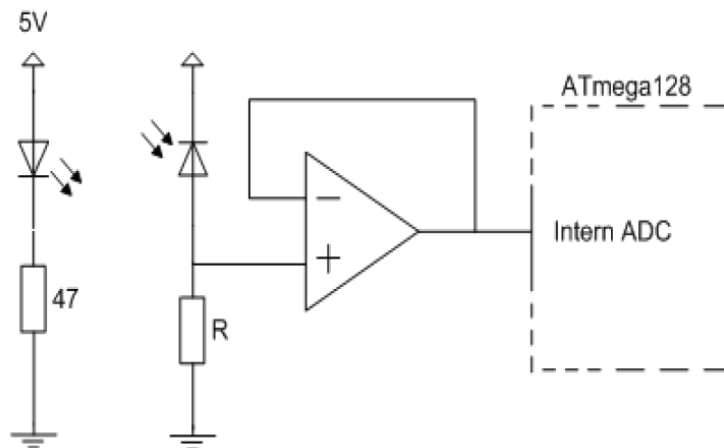

Figure 17 – example of IR assembly
5. Connect the IR diodes in a way that makes it possible to detect when the IR beam is blocked. An example is given in Figure 17, and you might also consider implementing an analog filter.